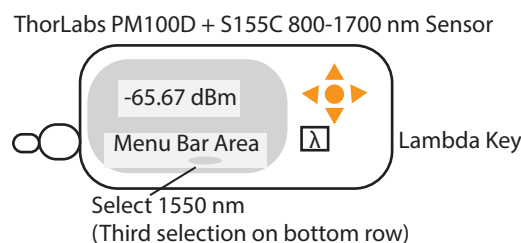

Figure 3-38. Power Meter QP – 1550 nm Configuration
- c. On PM100D Meter select OK to choose 1550 nm selection, as shown in Figure 3-38.